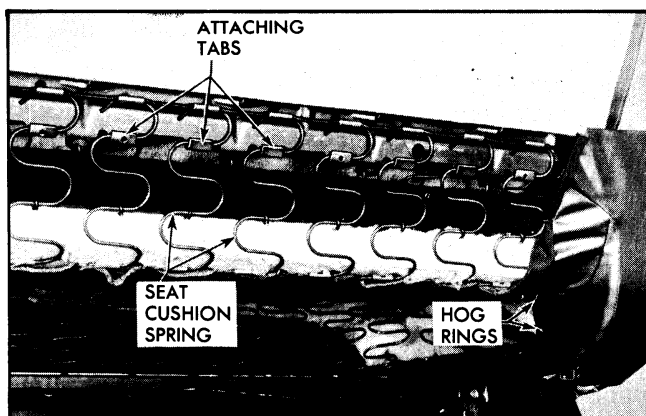

Fig. 18-2 Front Seat Cushion Spring Attachment
3. Raise trim and remove cardboard breakover foundation to expose seat cushion spring attachment to seat back frame along rear of seat and hog rings securing ends of seat back trim to seat bottom frame (Fig. 18-2).
4. Bend open tabs securing seat cushion spring assembly to seat back frame and carefully disengage springs from tabs. (Fig. 18-2)